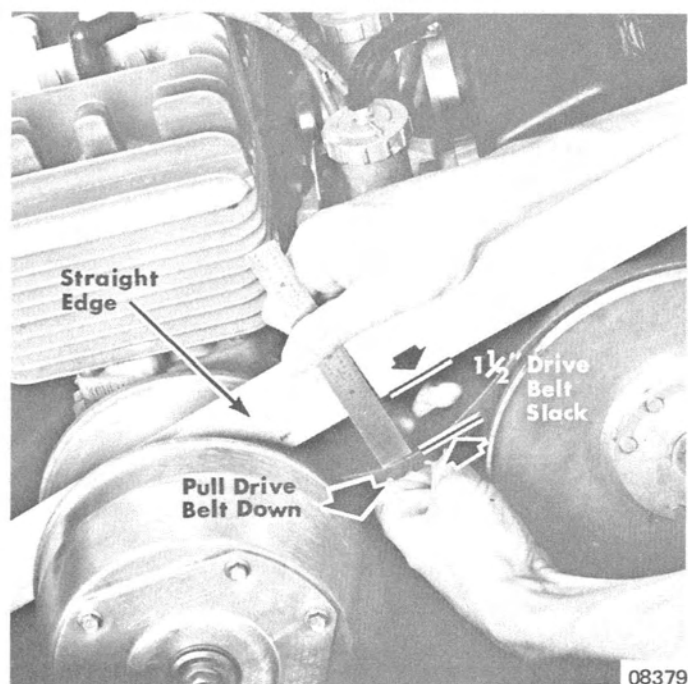

Figure 1. Checking Drive Belt Tension (Typical)
2. With straight edge positioned on top of drive belt as shown in Figure 1, pull down on drive belt to remove slack and measure "sag" at center of drive belt. Drive belt tension is correct when $1\frac{1}{2}$ " (38mm) of "sag" is measured between top surface of drive belt and bottom edge of straight edge. (Figure 1)